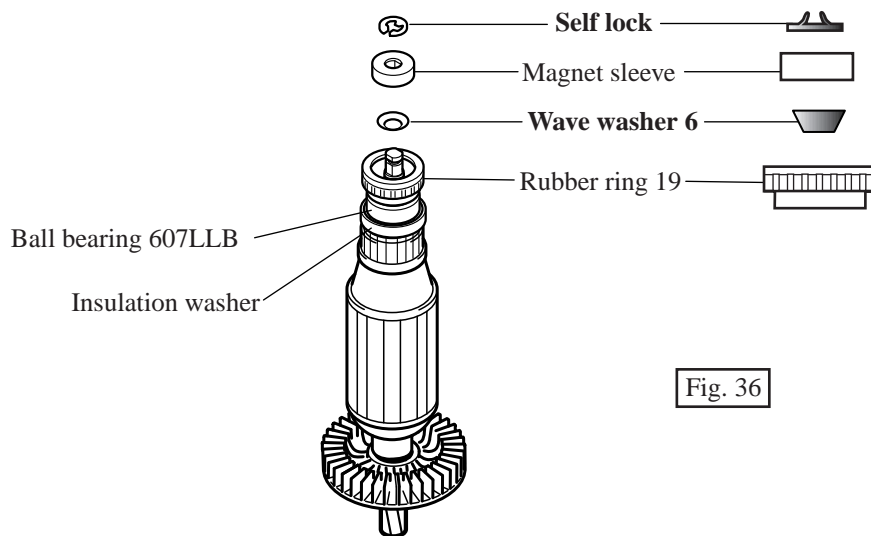

Fig. 36
2. Pay attention to the assembling direction of self lock and wave washer 6. See Fig. 36